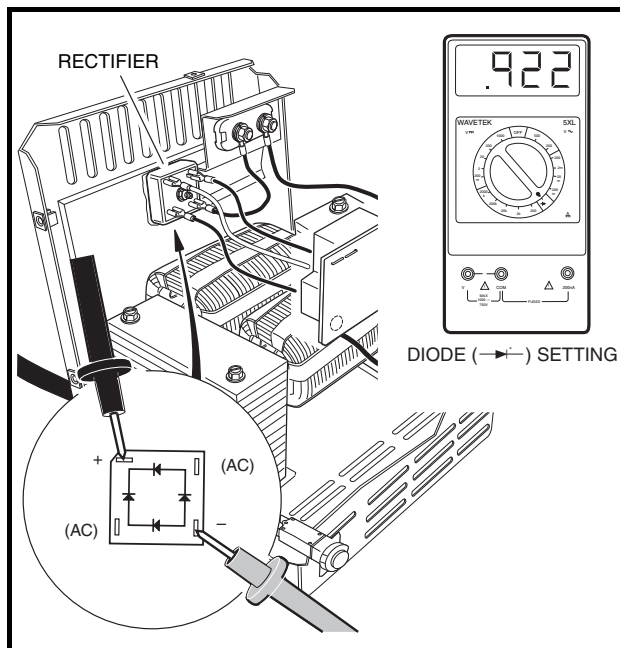

Figure 6-18 Rectifier Test
3. Disconnect all four wires from the rectifier (**Figure 6-18, Page 6-20**).
4. Using a multimeter set to the diode test function ($\rightarrow|$), place the black (–) probe of the multimeter on the positive (+) terminal of the rectifier. Move the positive (+) probe to each of the remaining three rectifier terminals and note the readings (**Figure 6-18, Page 6-20**).